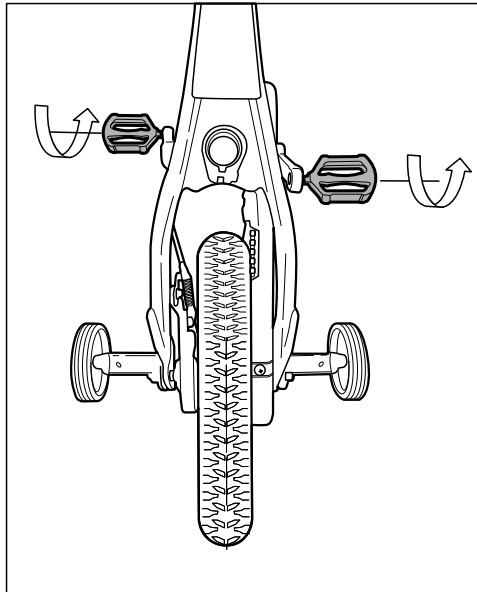

Figure 10
- Pedal marked “L” has left hand threads. Tighten in a counterclockwise direction (Figure 10).